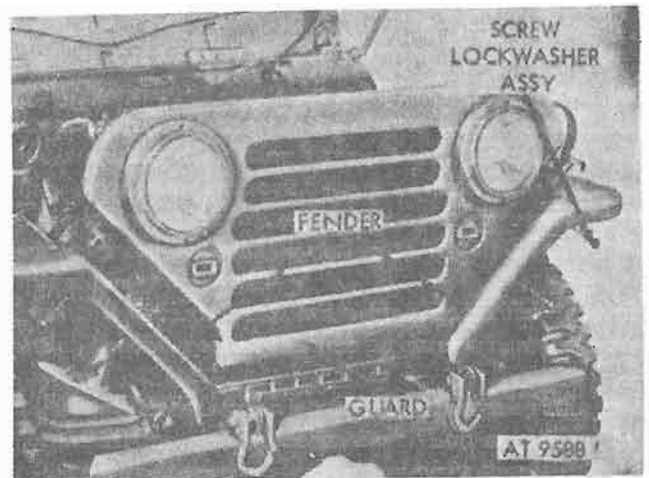

Figure 4-25. Remove brush guard.
(17) Remove six screws and lockwasher assemblies (and six washers) securing brush guard to fenders. Remove brush guard (fig. 4-25).
(17) Remove six screw and lockwasher assemblies (and six washers) securing brush guard and lift brush guard away from vehicle (fig. 4-25).